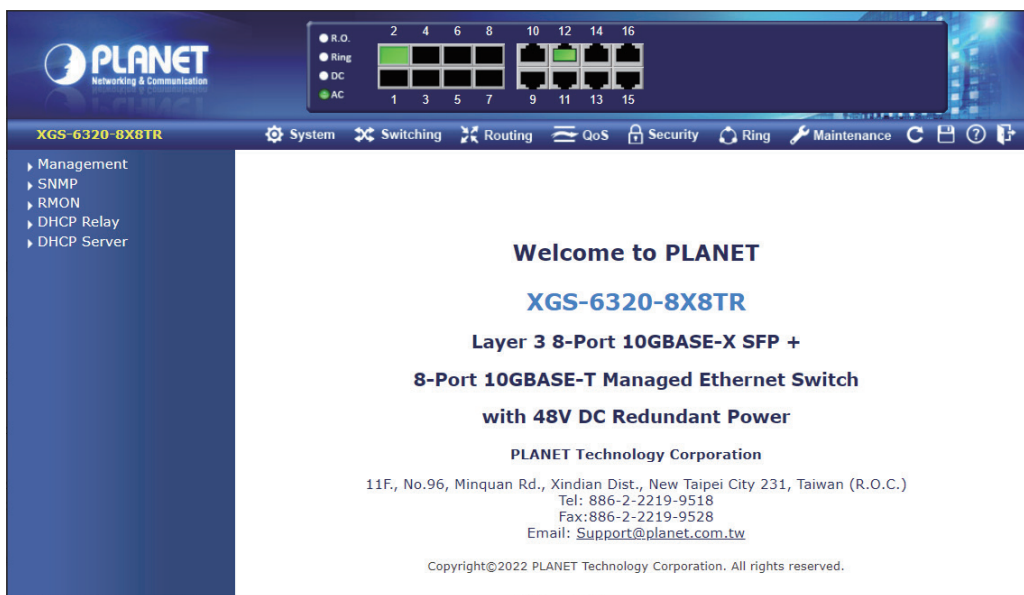

Figure 4-6: Web Main Screen of Managed Switch
- 7. After entering the password, the main screen appears as Figure 4-6 shows.